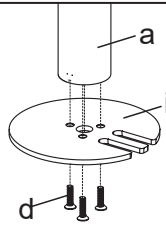

Figure 7
2. Install the Grommet Base Plate (i) to the Pole (a) using 3pcs M5x14 Bolts (d), and tighten using the Allen Key (p), see Figure 7.